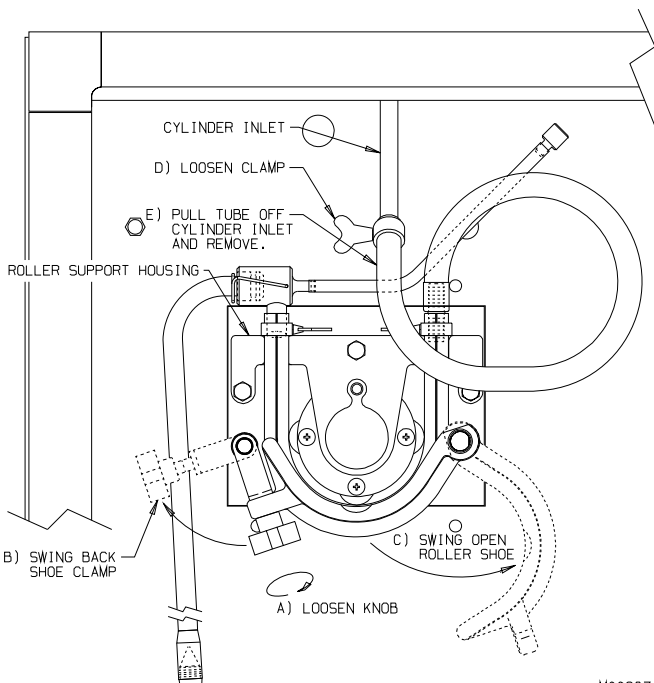

Figure 6-4 MTS
7. Remove the handle pin (9), handles (10,12), plungers (4,8) and nozzles (13) from the dispense head.
8. Remove O-rings (3) from the dispense head and O-rings (2) from the plungers (4,8).
11. Remove MTS hose assemblies from the Mix Transfer Systems as follows (figure 6-4):